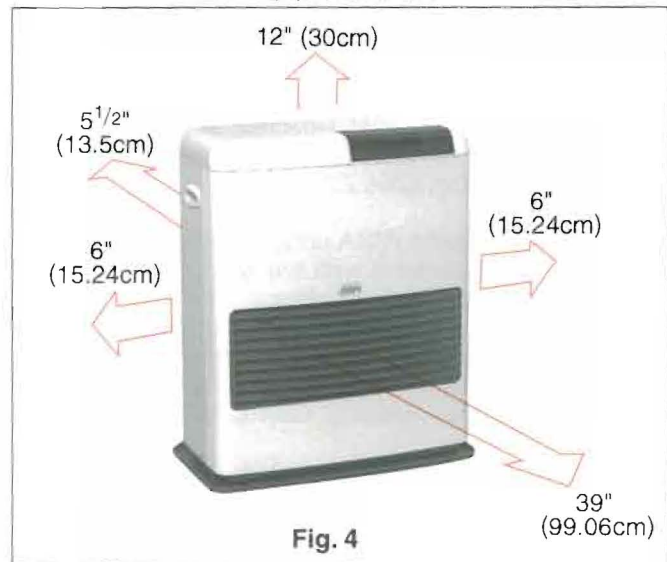

Fig. 4
- The area around the heater should be free of obstacles that might interfere with the free flow of air. Allow the clearances shown in Figure 4.
- Refer to Figure 4 to provide adequate accessibility clearances for servicing.